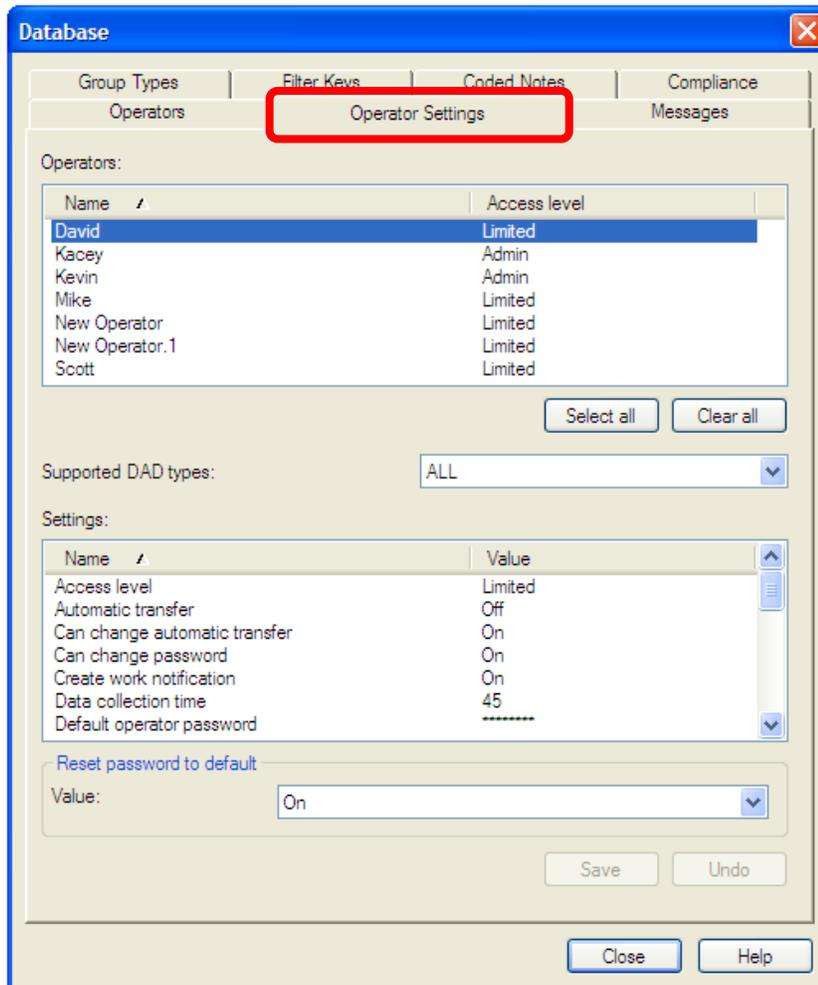

Figure 2. Operator Settings tab
2. Click on the **Operator Settings** tab. [Figure 2]